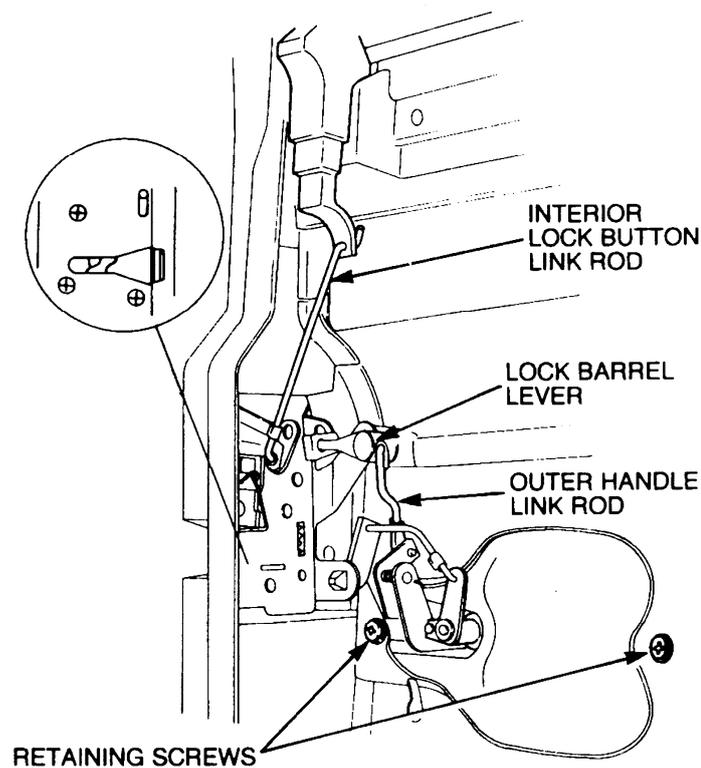

Figure 220 Door Lock Removal
- bb. Disconnect the outer handle link rod from the lock assembly (Figure 220).
- ff. Remove the recessed screws securing the outer door handle to the door (Figure 220).
- h. Connect the link rods (Figure 220).